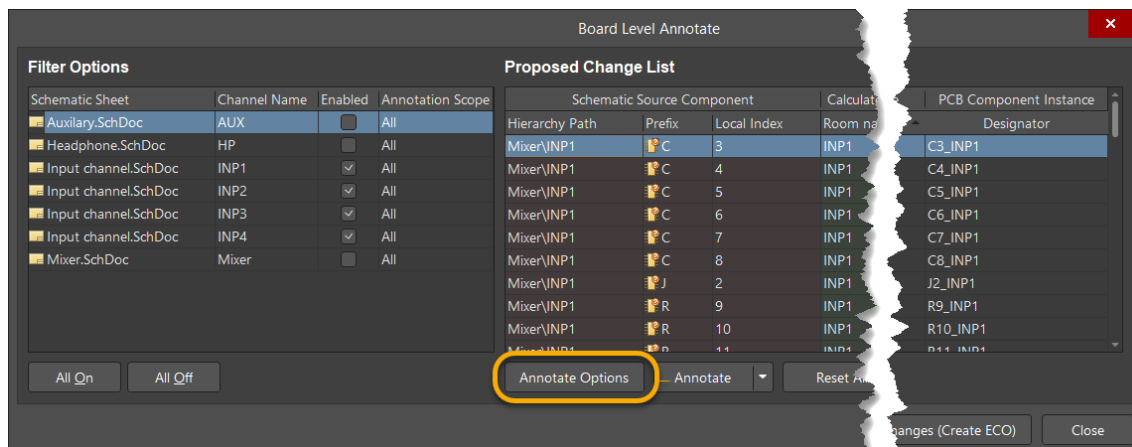

Figure 2. Board Level Annotate dialog
- From **Tools » Annotation** menu, select **Board Level Annotate...**, as shown in Figure 2.